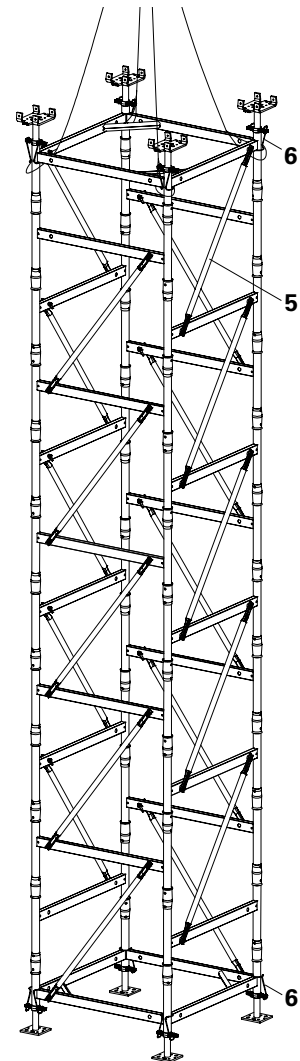

Fig. A3.01
1. Tightly connect all frames with Diagonal Strut (5) and mount Safety Straps (6).
3. Secure Stacking Tower against moving and tilting, see Section A5. (Fig. A3.01)